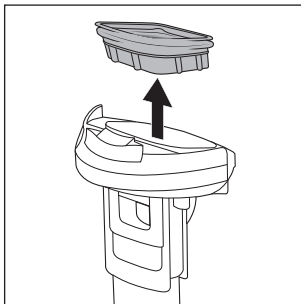

Fig. 24
- ◆ Remove the dirt filter ⑩ from the waste water tank ② by gripping into the side openings next to the dirt filter ⑩ with your fingers and pulling it upwards off the lid of the waste water tank ⑨ (see fig. 24).